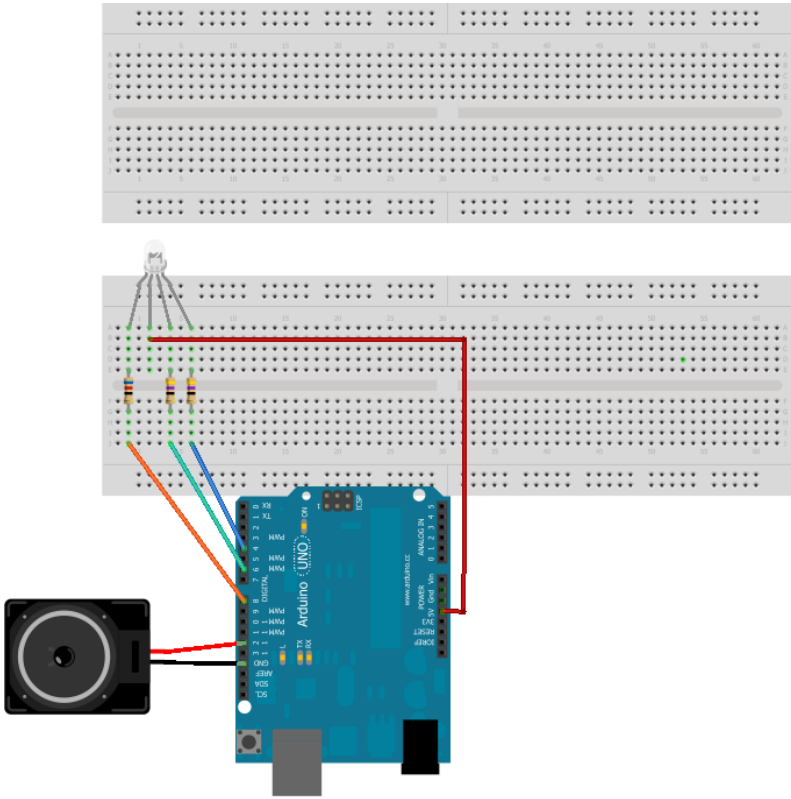

Figure 4-3. Step three.
3. **Add an audio speaker for additional fun.** Connect the speaker's black wire to GND on Arduino, and the speaker's red wire to Arduino pin 8. The schematic looks something like Figure 4-3.